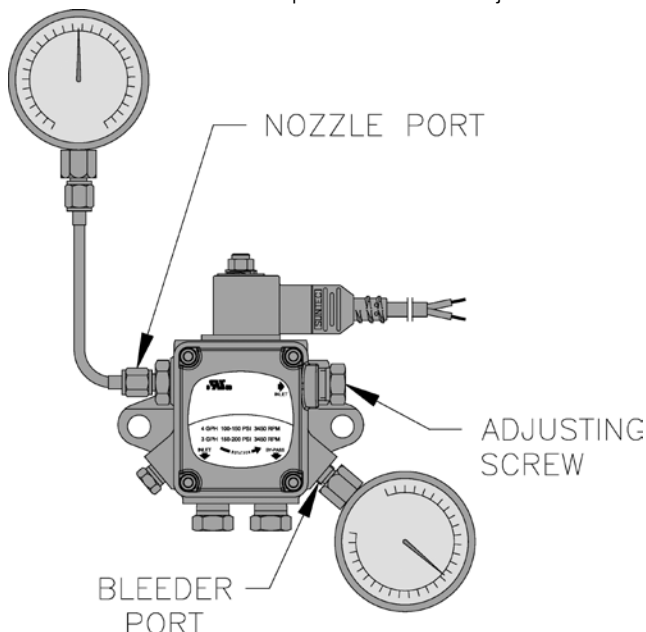

Figure 18: Adjusting Fuel Pump Pressure
- a. When checking a fuel unit's operating pressure, a reliable pressure gauge may be installed in either the bleeder port or the nozzle port. For Beckett burner refer to Figure 18.